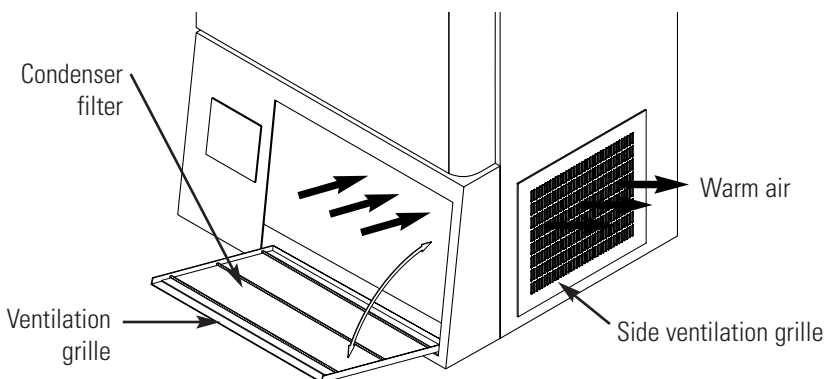

Figure 7-1. Condenser Filter Access
1. Open the ventilation grille located at the bottom of the unit as shown in Figure 7-1.